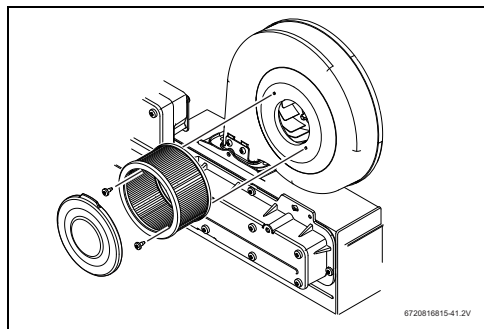

Fig. 54 Remove/assembly air filter
- Verify if the air filter is clean and undamaged. The air filter is attached to the fan assembly, see fig. 54.